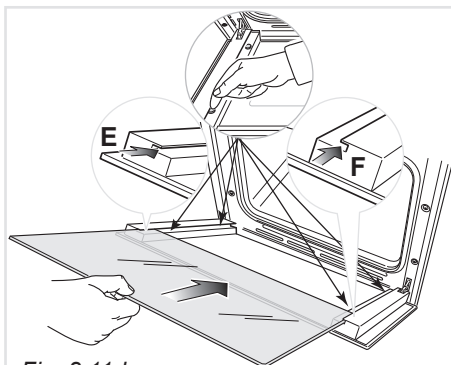

Fig. 8.11d
**IMPORTANT:** It is advisable, while refitting the glass, to keep pressed in position the four rubber pads "D", by a finger, to avoid breakage or slippage of the rubber pads themselves (fig. 8.11d).
- Insert the pane in the left "E" and right "F" slide guides (fig. 8.11d), and gently slide it to the retainers "H" (fig. 8.11e).